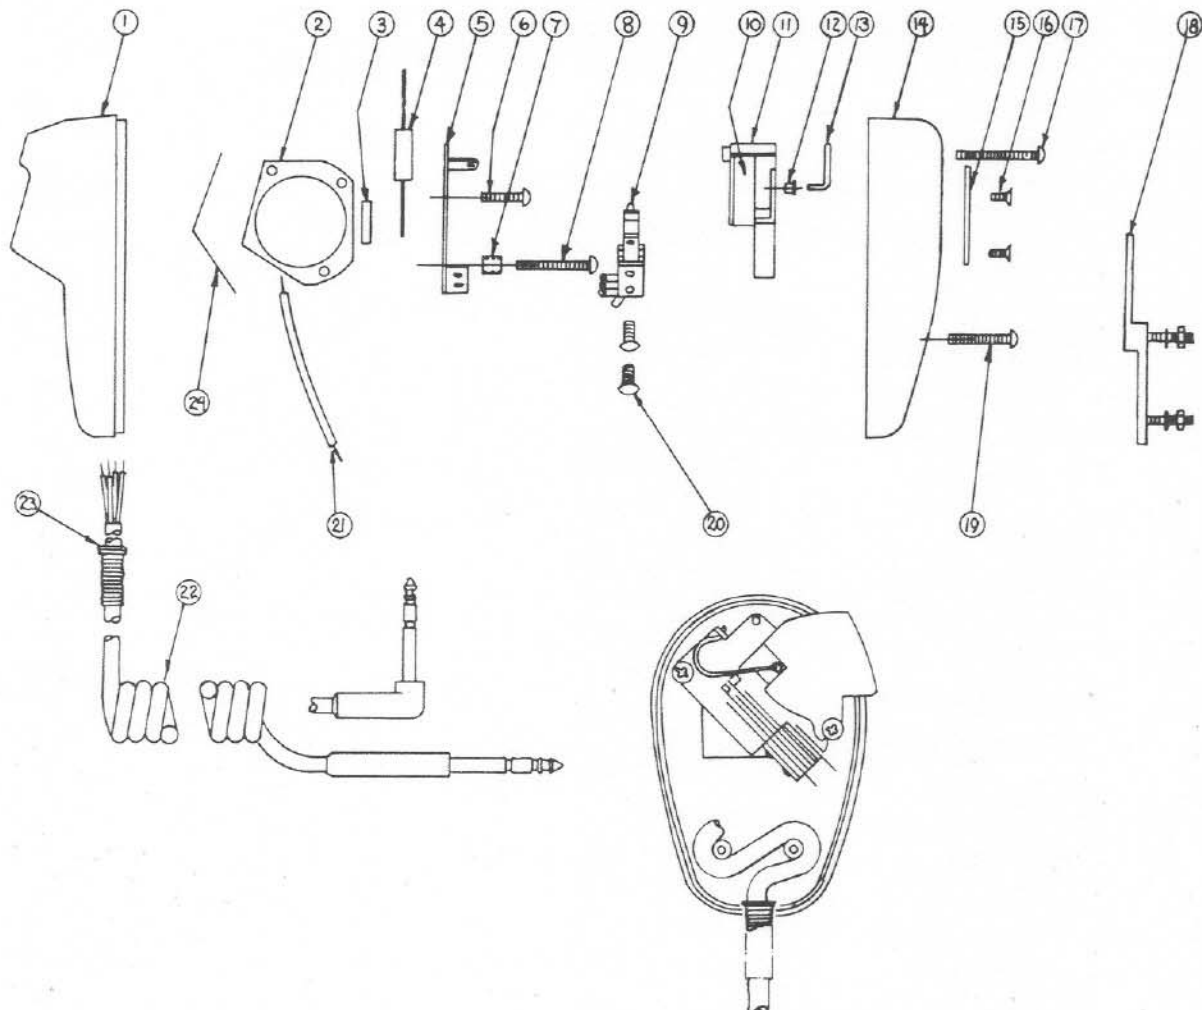

FIGURE 1 - Assembly Drawing
2. Disassembly. (See Figure 1)
- Do not disassemble the head and capacitor sub-assembly (2) to (6) unless capacitor or head must be replaced. If this is necessary proceed as indicated in steps c. and d.
- Remove head by first removing screws (Items 6 & 8) and switch bracket (Item 5). See Figure 1.
- Do not unsolder leads to switch unless it is necessary to replace switch assembly or cable (10).